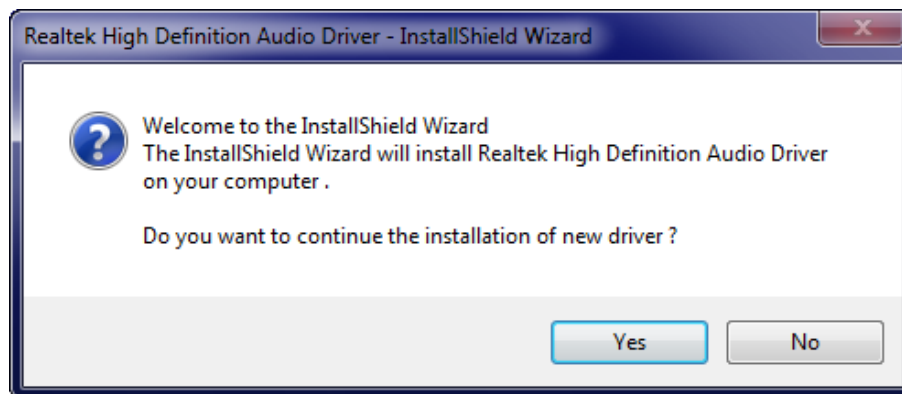

Figure 5-23: Audio Driver Welcome Screen
Step 5: The **Audio Driver Welcome** message in **Figure 5-23** appears.